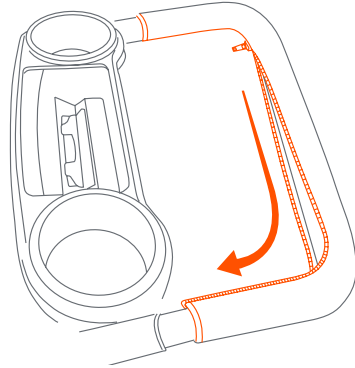

Fig. 11a
**Zipper:** To attach, wrap around the handle and zip closed (Fig. 11a).